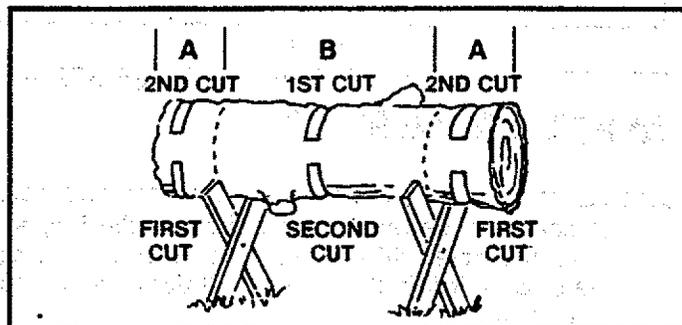

Figure 33
3. BUCKING — USING A STAND (Figure 33):